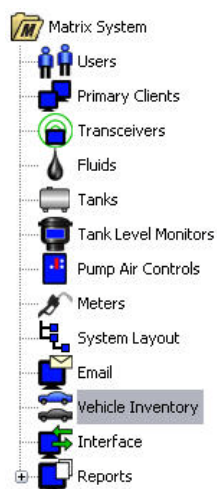

FIG. 149
1. Select **Vehicle Inventory** from the list on the Matrix System Panel (FIG. 149).